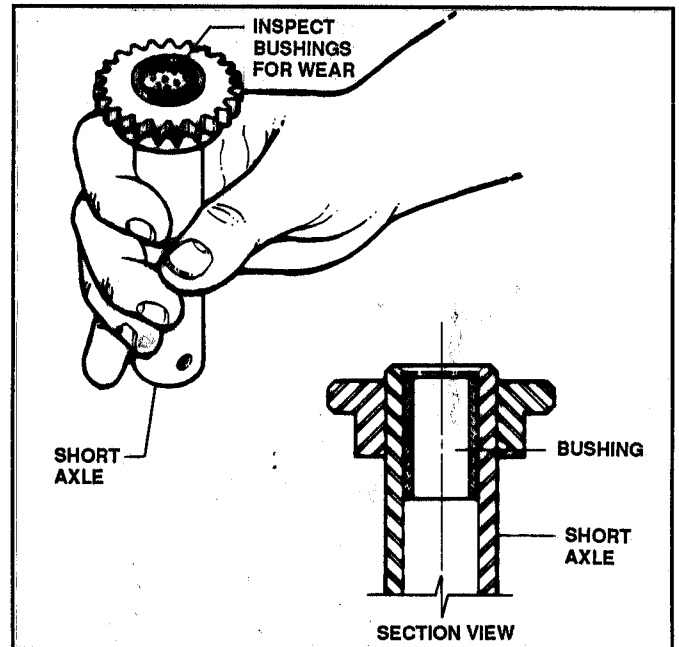

FIGURE 4.27
4. Inspect bushing in short axle for wear. If worn excessively, replace short axle assembly. See Figure 4.27.